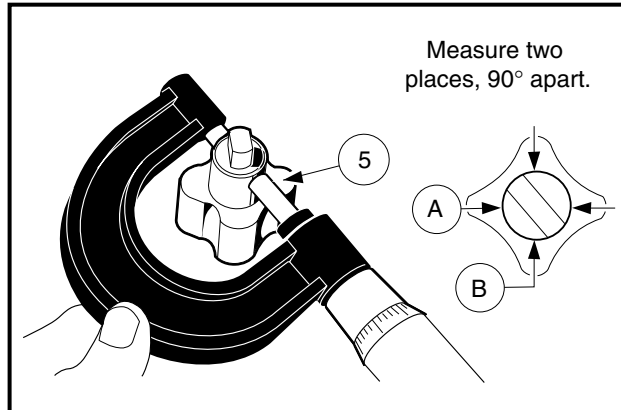

Figure 13-68 Measure Pump Shaft Bearing Surface
- 4.1. Measure the pump shaft bearing surface. Replace both rotors as a set if the measurement is less than 0.4971 inch (12.627 mm) (**Figure 13-68, Page 13-34**).